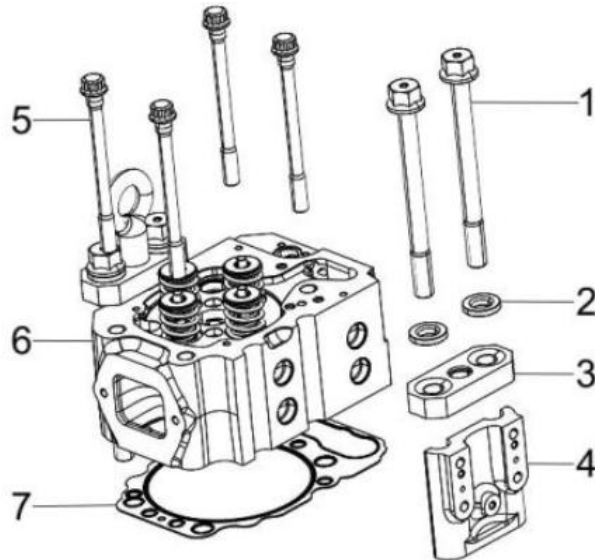

Figure 73. Cylinder Head Assembly
1. Carefully clean both the combustion surface of the cylinder head and the top surface of the cylinder block. Then place a new cylinder head gasket (Figure 73, 7) on the cylinder block.
2. Position the cylinder head (Figure 73, 6) on the cylinder head gasket.
3. Lightly oil the threads and shoulder of the cylinder head main bolts (Figure 73, 5) and cylinder head secondary bolts (Figure 73, 1). Lightly oil the clamping block (Figure 73, 2) and end plate (Figure 73, 3).